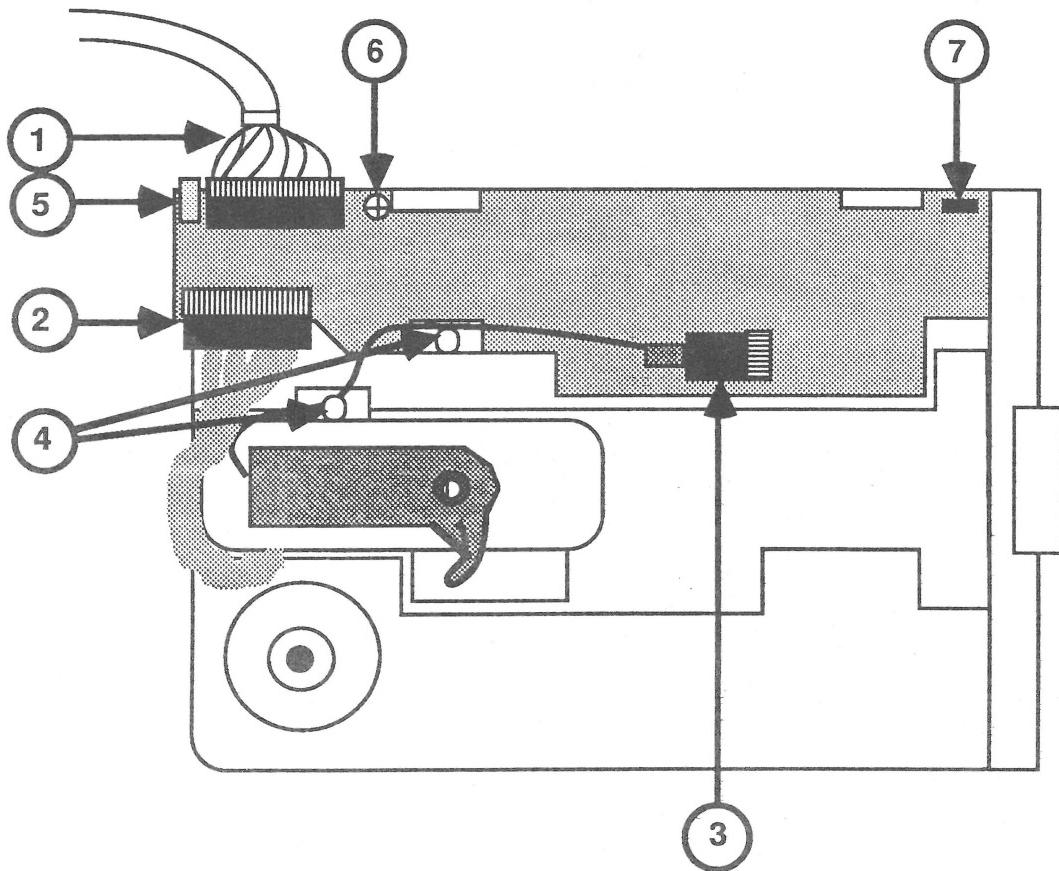

FIGURE 2
3. Remove the cable from the disk drive (Figure 2, #1).
5. On the analog card, disconnect the motor cable from connector J2 (Figure 2, #2).
6. On the analog card, disconnect the read/write head cable from connector J3 (Figure 2, #3) and carefully remove the wire from the clips (Figure 2, #4).
7. On the analog card, disconnect the LED cable from connector J4 (Figure 2, #5).
8. Remove the Phillips screw that mounts the analog card to the disk drive chassis (Figure 2, #6).
1. Slide the front edge of the card under the two plastic posts located on the inside of the disk drive bezel. Lay the card on the chassis so that the alignment tab (Figure 2, #7) protrudes through the hole.
3. Look at the read/write head cable (Figure 2, #3) that attaches to connector J3 and note that only four wires are connected to the five pin connector. Connect the read/write head cable, making sure that each wire makes contact with a pin on the header.